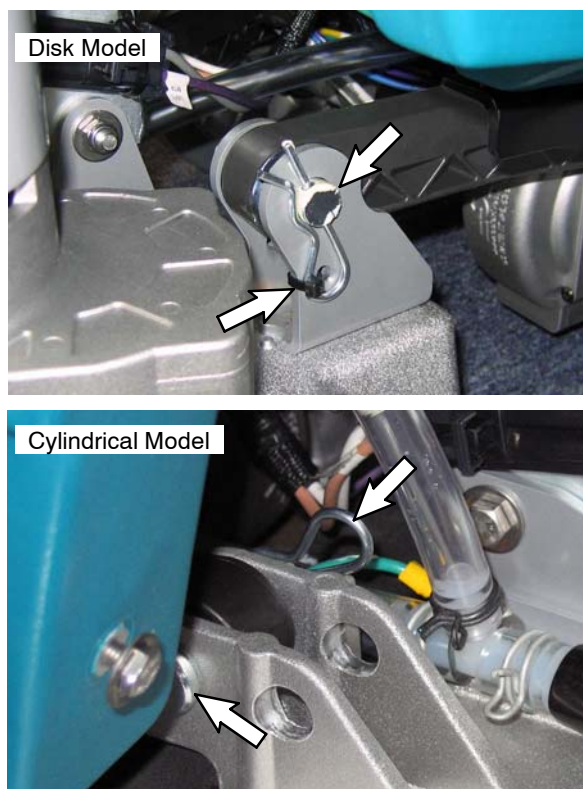

Fig. 11
10. Connect the two lift arms to the scrub head using the clevis and cotter pins supplied with kit. Secure cotter pin with wire-tie as shown (Figure 11).